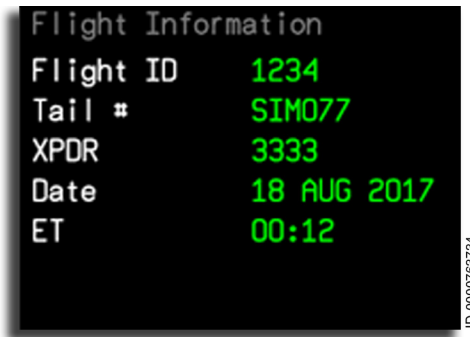

Figure 23-5
As shown in Figure 23-5, the flight information consists of the Flight ID, tail number, transponder code (XPDR), UTC date, and elapsed time (ET). The flight information is displayed in the PFD Auxiliary window. A gray horizontal divider line is displayed between the Flight Information section and the CPDLC Inbox section of the PFD auxiliary window. A gray vertical divider line is displayed between the PFD display window and the PFD auxiliary window.